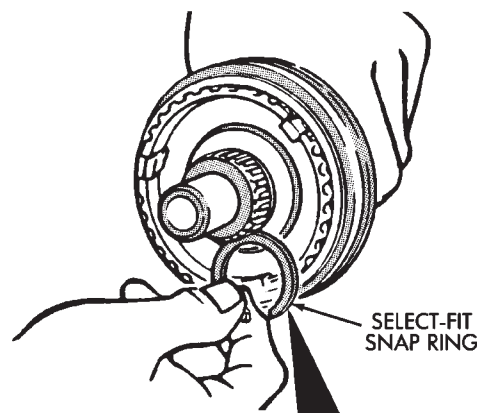
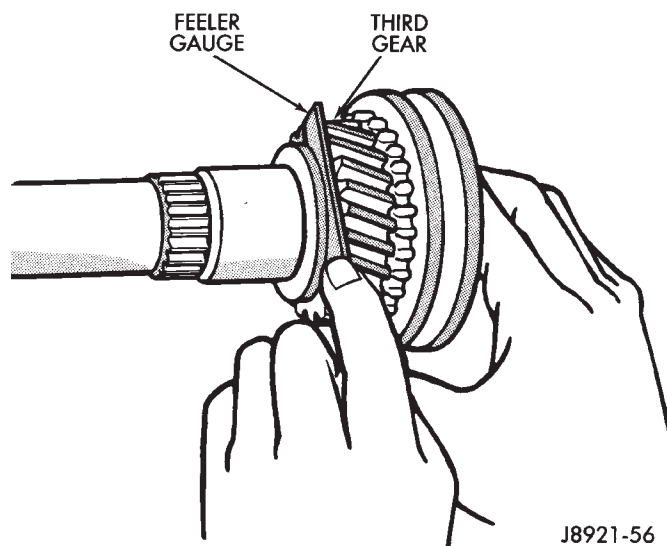

Fig. 109 Select 3-4 Synchronizer Snap-ring
Fig. 110 Check Third Gear Clearance
(3) Install third gear needle bearing onto the output shaft.
(4) Install third gear over bearing and onto output shaft flange.
(5) Install third gear synchronizer ring to third gear.
(6) Position the 3-4 synchronizer onto the output shaft.
(7) Using Adapter 6747-1A and a shop press, press the 3-4 synchronizer onto the output shaft.
(8) Select the thickest snap-ring that will fit into the snap-ring groove of the output shaft (Fig. 109).
(9) Install snap-ring to hold 3-4 synchronizer onto output shaft.
(10) Verify third gear thrust clearance with feeler gauge (Fig. 110). Clearance should be 0.10 – 0.25 mm (0.004 – 0.010 in.). If clearance is out of specification, refer to Cleaning and Inspection section within this group.
(11) Install second gear needle bearing onto output shaft.